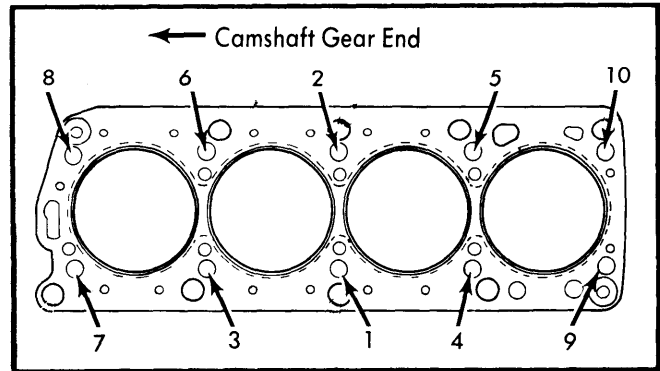

Fig. 2 Cylinder Head Bolt Tightening Sequence
6) To install cylinder heads, reverse removal procedure, noting the following: Clean block and head mating surfaces. Install new head gasket to block. Tighten cylinder head bolts to a final torque of 61.5 ft. lbs. (8.5 mkg) in proper sequence and in two stages. See Fig. 2. Refit timing belt and set valve timing. Check valve clearance and install remaining parts in reverse order.